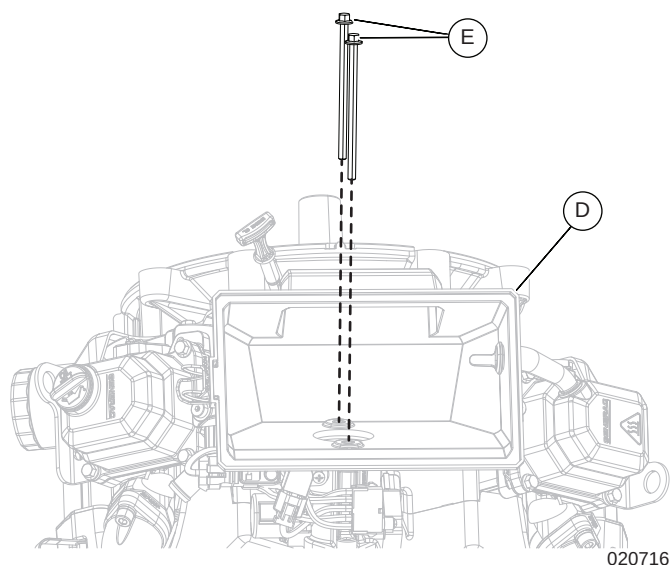

Figure 6-8. Remove Air Box Mixer Bolts
4. See Figure 6-8. Remove the two bolts (E) from inside the air box base (D) attaching air box to mixer.